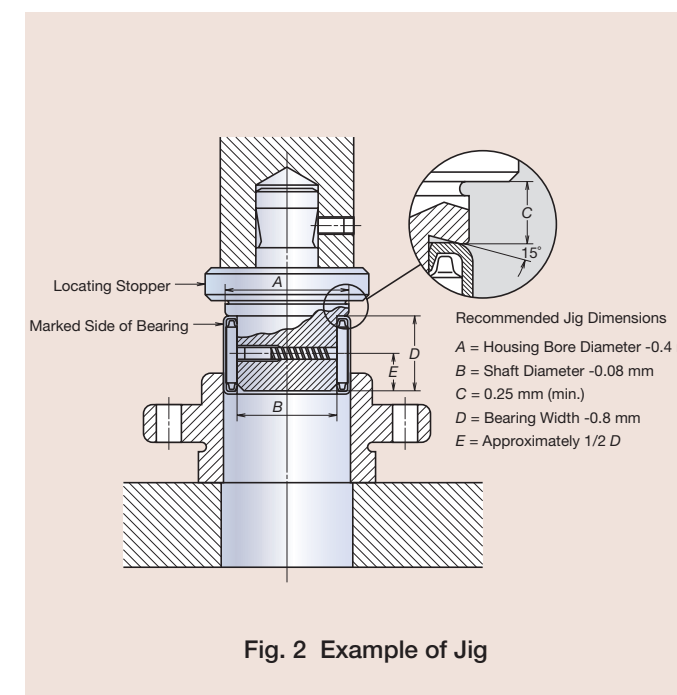

Fig. 2 Example of Jig
When a drawn cup needle roller bearing is pressed into a housing bore, it is necessary to use an appropriate jig to prevent deformation of, and damage to, the outer ring, as shown in Fig. 2.
- (1) The marked-side face should be placed onto the shoulder of the jig.
- (2) A hand press should be used for press fitting. Avoid using a hammer or other such instruments.
- (3) Use of a snap ring or shoulder to determine the position of the bearing is not necessary. However, when using a housing with a shoulder, the bearing side face should not touch the shoulder in order to prevent bearing deformation.
- (4) The guide and locating stopper shown in Fig. 2 are installed in order to apply press fitting accurately. The ball shown in Fig. 2 helps the jig hold the bearing and prevent roller inclination while facilitating mounting work.